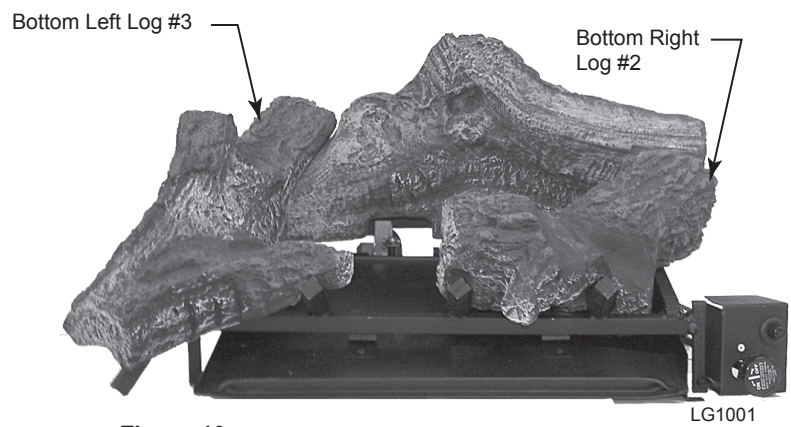

Figure 10
2. Place bottom right log (#2) on right side of grate. *Figure 10*
3. Place bottom left log (#3) on left side of grate. *Figure 10*